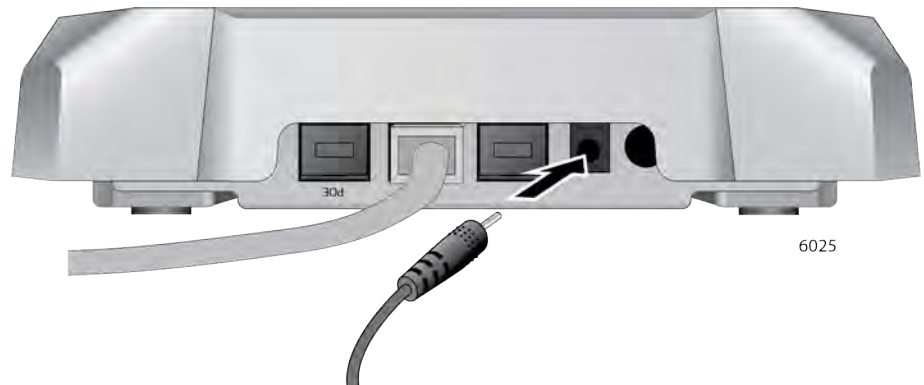

Figure 25. Connecting an AC Power Adapter to the Access Point
2. Plug the cable from the power adapter into the power connector on the access point. Refer to Figure 25.